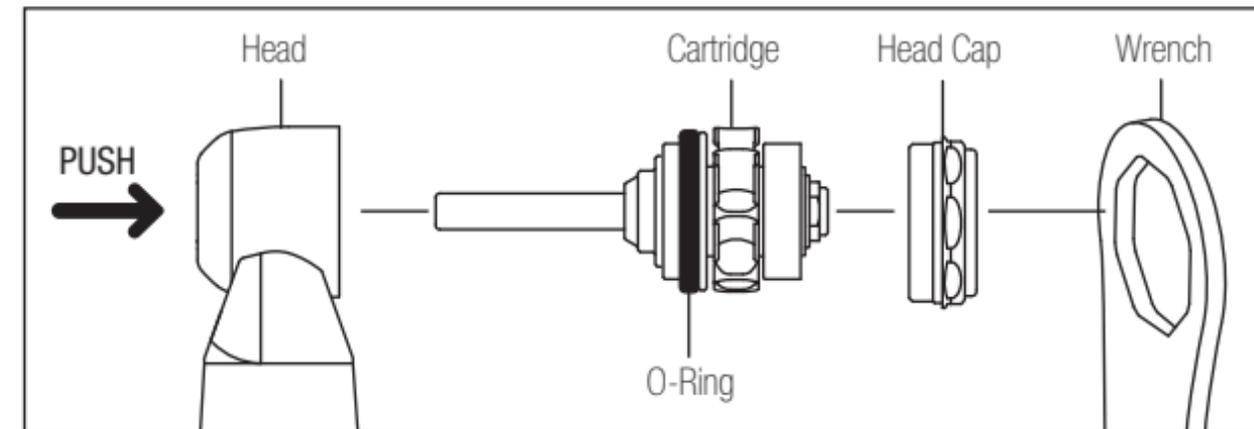

Fig. 6
- Make sure that the O-ring (Fig. 6) is correctly located on the cartridge.